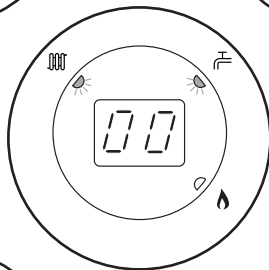
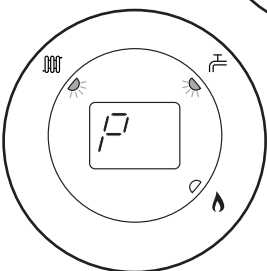

Fig. 69
Fig. 70
5. Turn CH temperature control knob fully clockwise. As the knob is turned the display will change from '0' to '00' (Fig. 69) indicating maximum rate, then revert to 'P' alternating with the current boiler temperature (Figs 70 & 71).